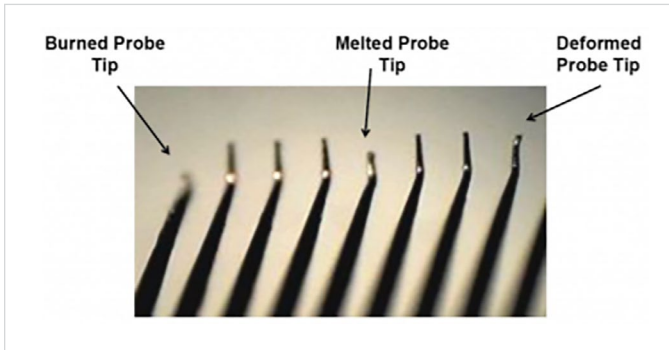

Figure 3. Probe-card needle damage.
**Figures 3 and 4** illustrate the results of current glitches from multiple parasitic capacitances. If this occurs frequently during device production test, it will lead to increased maintenance costs and decreased productivity, both of which are highly undesirable in a semiconductor production line.